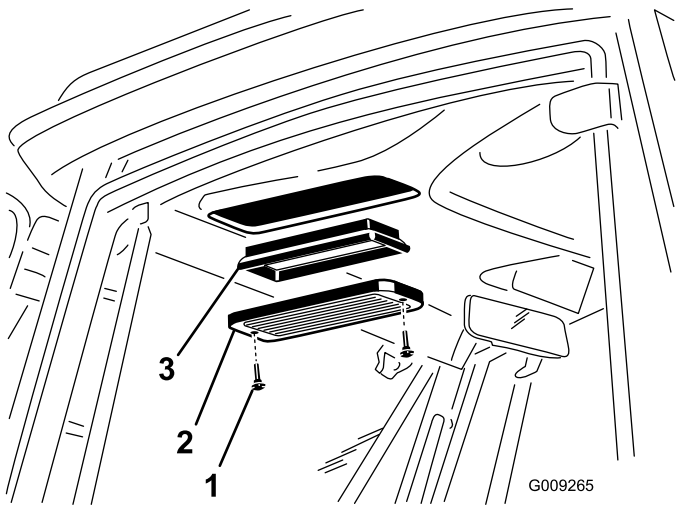

Figure 54
1. Remove the thumb screws and grates from over both the in-cab and rear cab air filters (Figure 54).